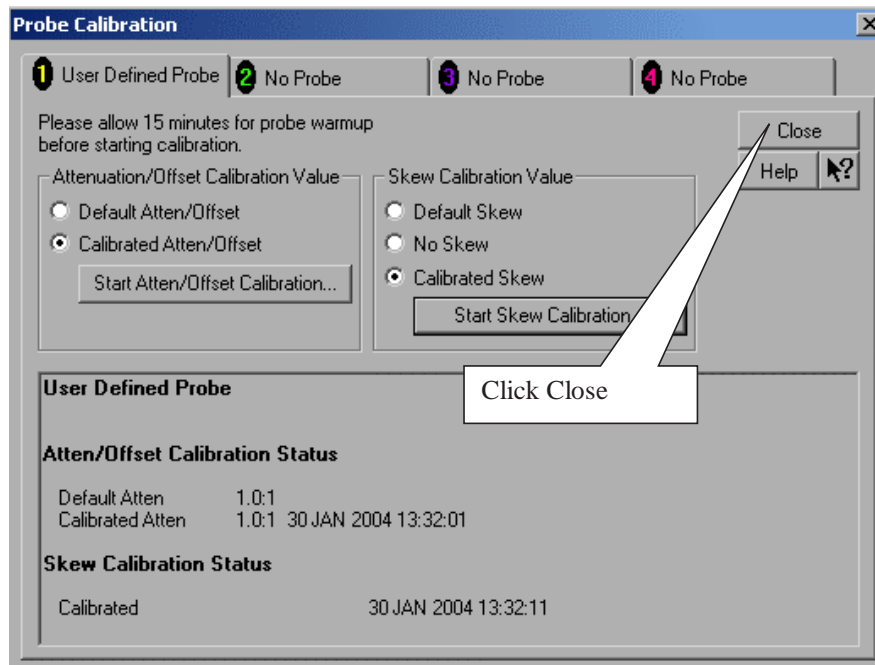

Figure 299 Calibration Window.
- 11 Referring to Figure 299 below, perform the following steps: